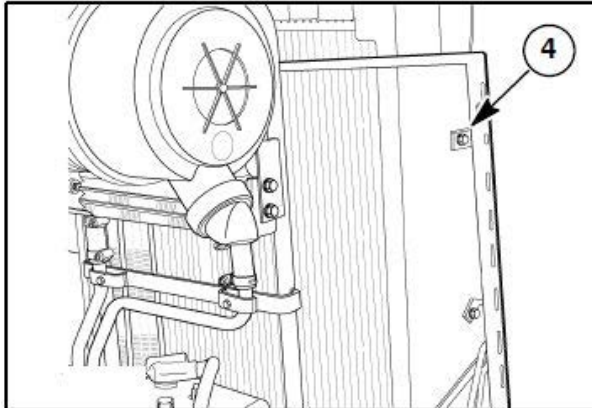

Figure 3-22
3. Remove the two wing nuts that retain the front radiator screen and slide the screen (4) in Figure 3-22, out the left side of the tractor.